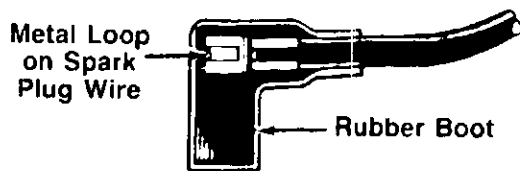

FIGURE 16.
2. Attach spark plug wire to spark plug. Make certain the metal loop on the end of the spark plug wire (inside the rubber boot) is fastened securely over the metal tip on the spark plug. See figure 16